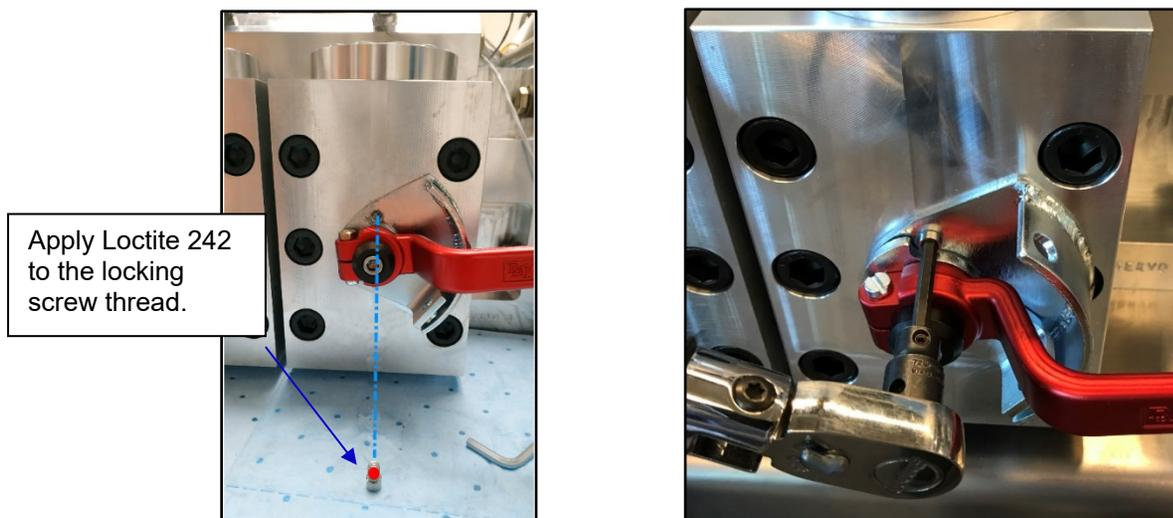

Figure 3-13. Locking Bracket Installation
10. Apply Loctite 242 to the locking screw and tighten using **3/16** hex key wrench. Installation torque: 89-99 LBIN (10-11 Nm) (Figure 3-13).